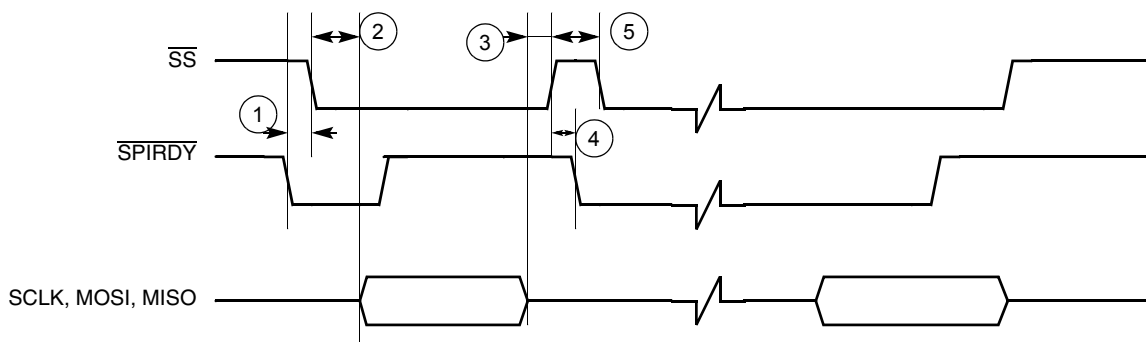
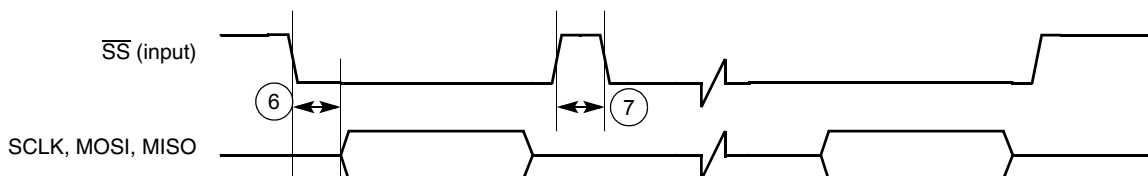

Figure 34. Master SPI Timing Diagram Using $\overline{\text{SPI_RDY}}$ Edge Trigger
Figure 38. Slave SPI Timing Diagram FIFO Advanced by $\overline{\text{SS}}$ Rising Edge
To use the internal transmit (TX) and receive (RX) data FIFOs when the SPI module is configured as a master, two control signals are used for data transfer rate control: the \overline{SS} signal (output) and the $\overline{SPI_RDY}$ signal (input). The SPI1 Sample Period Control Register (PERIODREG1) can also be programmed to a fixed data transfer rate. When the SPI module is configured as a slave, the user can configure the SPI1 Control Register (CONTROLREG1) to match the external SPI master's timing. In this configuration, \overline{SS} becomes an input signal, and is used to latch data into or load data out to the internal data shift registers, as well as to increment the data FIFO. Figure 34 through Figure 38 show the timing relationship of the master SPI using different triggering mechanisms.
Table 18. Timing Parameter Table for Figure 34 through Figure 38